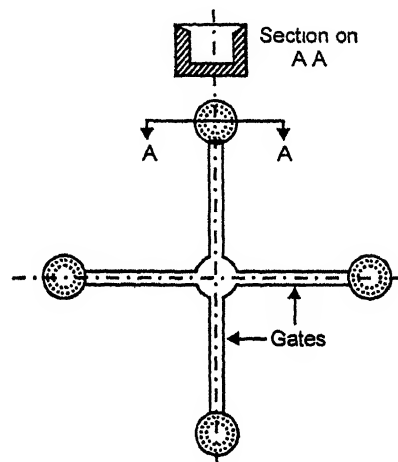

Fig. 8.6. Gated pattern.
- To save time, a number of castings are produced in a single *multicavity mould* by *joining a group of patterns*. The gates or runners for the molten metal are formed by the connecting parts between the individual patterns. These groups of patterns with gate formers attached to them are called *gated patterns* (See Fig. 8.6).